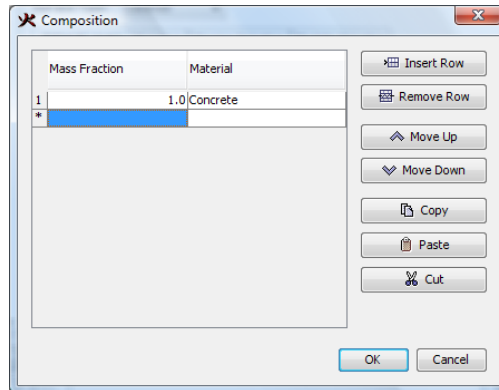

Figure 7.7. Composition of the concrete surface
6. The material composition can be defined as a mixture. Click the **Edit** button. In the **Mass Fraction** column, type 1.0. In the **Material** column, select Concrete, Figure 7.7. Click **OK** to close the **Composition** dialog.